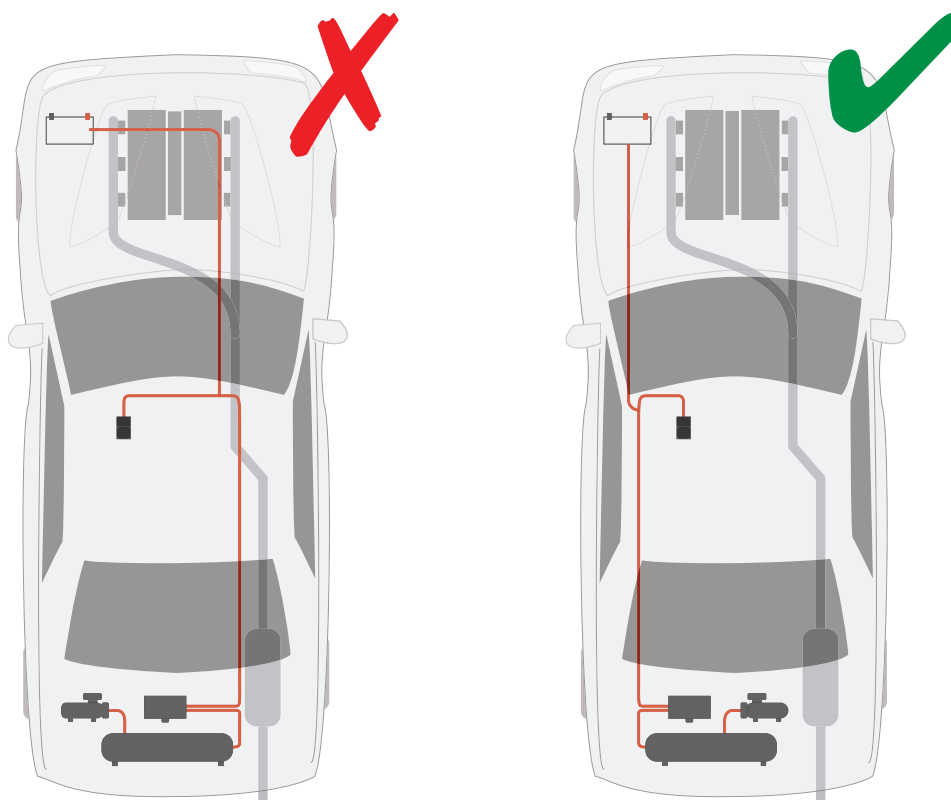

Fig. 23
The manifold wire harness (G) can be routed inside or underneath the vehicle. In either case, ensure all parts of the harness are protected from abrasive edges and heat sources (Fig. 23). Also, reference pg. 12-13 to see a full electrical/pneumatic layout)